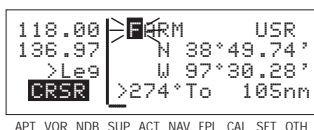

Figure 4-74
1. From any supplemental waypoint (SUP) page, turn on the cursor (**CRSR**). It will flash over the first character in the waypoint identifier field (figure 4-74).